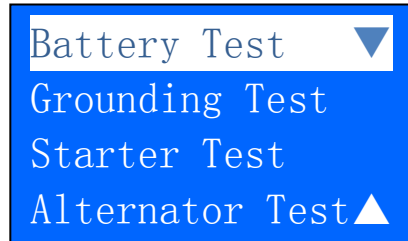

Figure 31
3. After you have made your choice, selecting “New: Clear Memory” or “Continue...Test” will proceed to the display below: (Fig. 31)